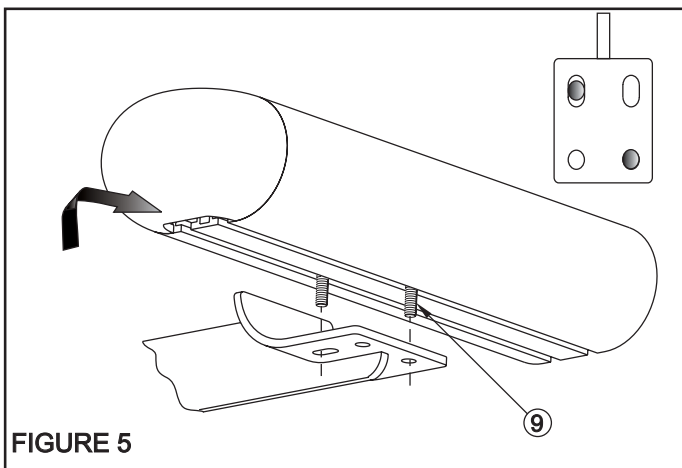

FIGURE 5
**STEP 4.** Slide T-head bolts on step bar as shown (3 per slot, 6 per bar). Place step bar on saddle with long step pad forward and end cap screw facing inward. Assemble with 1/4" hardware (See Figure 5 and 6).